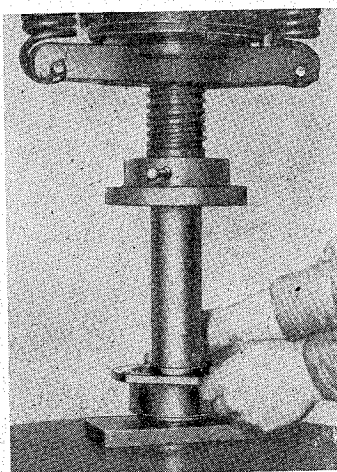

Fig. 53.
3. Install into the cup the inner race of the rear taper roller bearing, the adjusting shims of the required thickness, the spacer ring and the inner race of the taper roller bearing. Using a press check the cup for free rotation without undue play on the press-fitted taper roller bearings (see Fig. 53). Add or remove the adjusting shims as necessary.